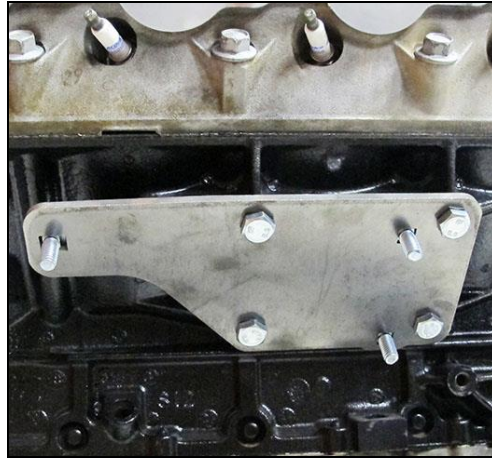

Figure 1
4. Using the supplied M10 bolts (x4 for each plate), attach the Hooker LS engine mounting plates onto the LS engine to be installed. Before attachment, load the included 3/8" carriage bolts (x3 for each plate) into the plates from the backside of each. Refer to **Figure 1** below for correct orientation of the plate/bolts on the right (passenger's side) of the engine. Install the remaining plate onto the left side of the engine in a similar fashion.